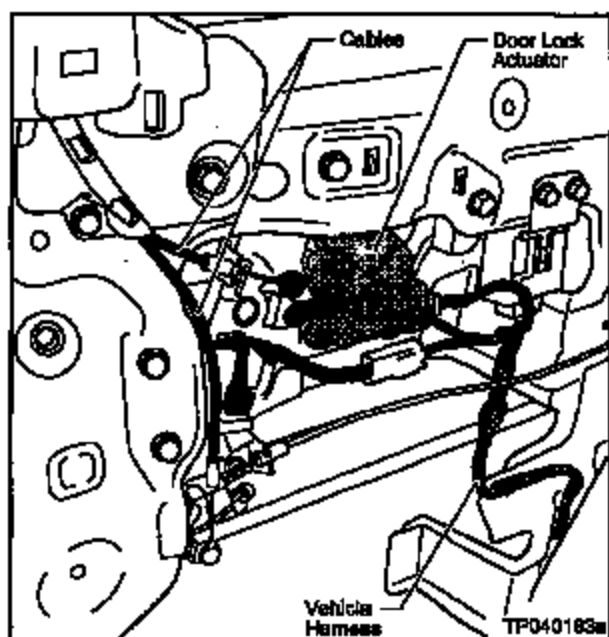

Figure 19
- e. Make sure the Vehicle Harness is correctly routed and securely re-connected to the Door Latch Actuator and Latch Assembly. Also, make sure the Cables are properly re-connected (see Figure 19).